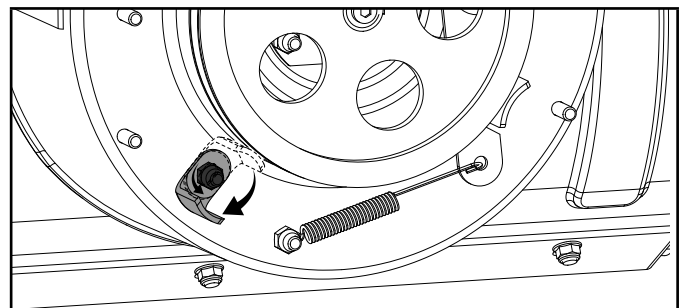

Figure 44
7. Unscrew the bolt on the belt guard (Fig. 44).